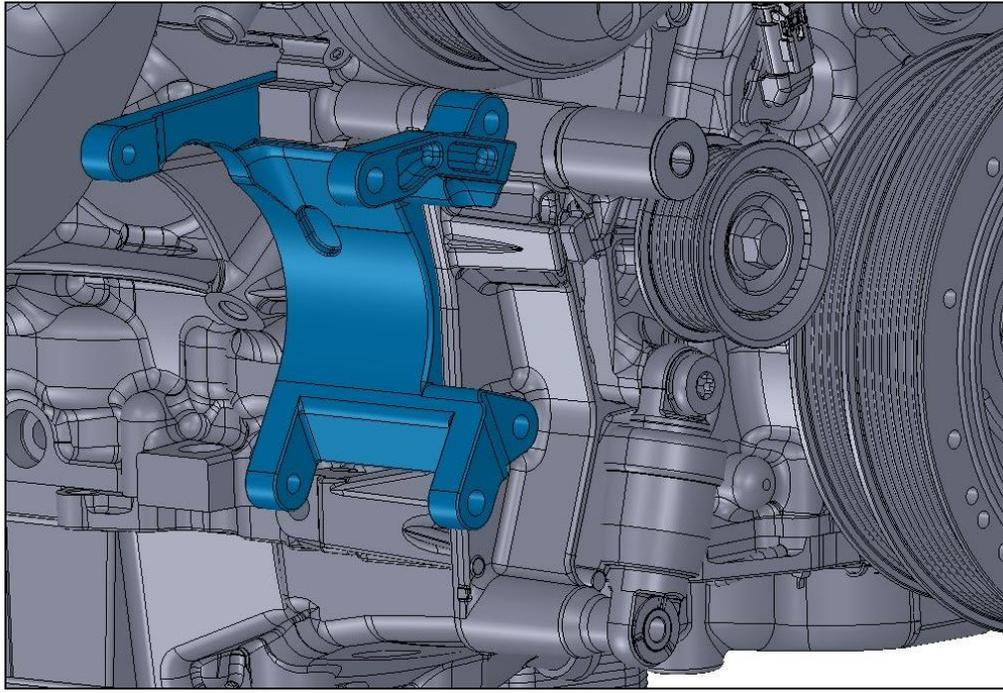

Figure 4: Previously installed A/C compressor and bolts are hidden for clarity of mounting location of the bracket to tensioner.
3. Install compressor/bracket assembly onto engine as shown in **Figure 4**. Insert M8 x 1.25 x 100mm flange bolt into upper mounting location. This bolt goes through the A/C bracket, tensioner bracket (GM P/N 12639512), and engine block. Hand tighten upper bolt. Insert M8 x 1.25 x 50mm flange bolt into lower mounting location on tensioner bracket (GM P/N 12639512). (This is the location for the other end of the ground strap. Install ring terminal as shown in **Figure 5**.) **Torque both bolts to 18 ft-lbs.**